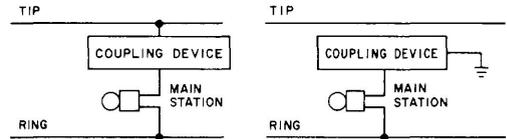

Fig. 1—Individual Line Ringing
3.01 Individual line ringing (Fig. 1) is accomplished by connecting the ringer, associated with a single party using a coupling device, Table A.